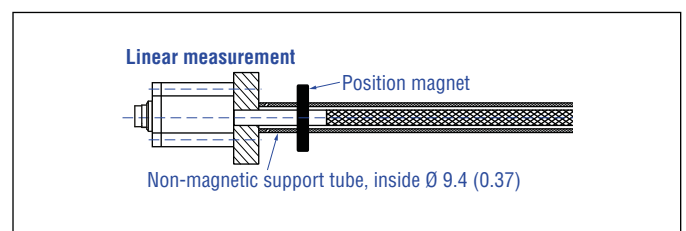

Fig. 13: Sensor with support tube
1. Always insert the flexible sensor rod in a support tube (e.g. pressure rod HD/HL/HP or HFP profile). The support tube has to be made of non-magnetic material and has to have an inside diameter of minimum 9.4 mm (0.37 in.) (Fig. 13). The support tube can be straight or bent.